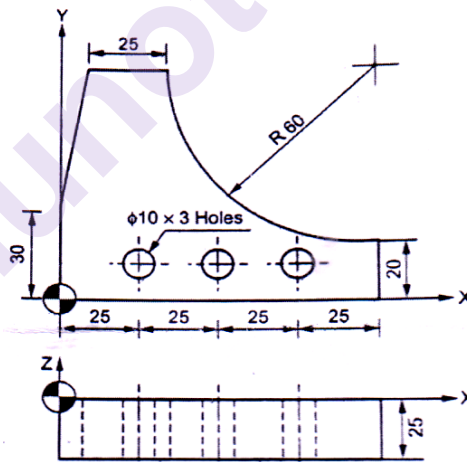

Fig.2
- Q4) a)** Write a CNC part program to manufacture the component as shown in Fig.2. Use canned drill cycle for drilling operations and use right cutter compensation. Take thickness of plate is 20mm. Assume suitable data. [12]